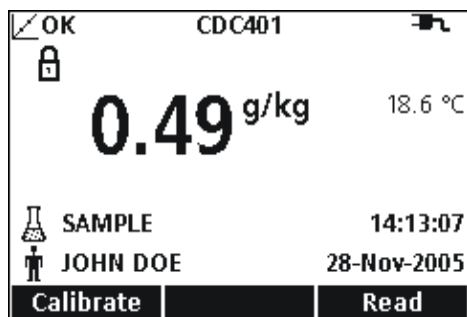
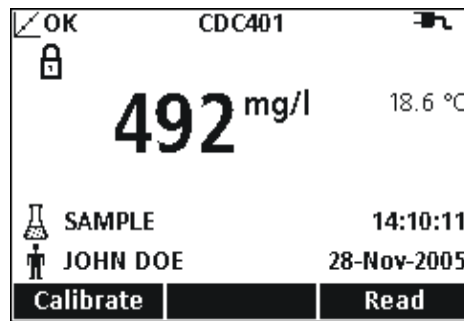

Figure 17 Example of Conductivity Measurement Displayed in Salinity Units
Figure 18 Example of Conductivity Measurement Displayed in TDS Units
- This screen is an example of a conductivity measurement displayed in conductivity units. Repeat this procedure to take additional measurements. See Figure 17 on page 64, Figure 18, and Figure 19 on page 65.